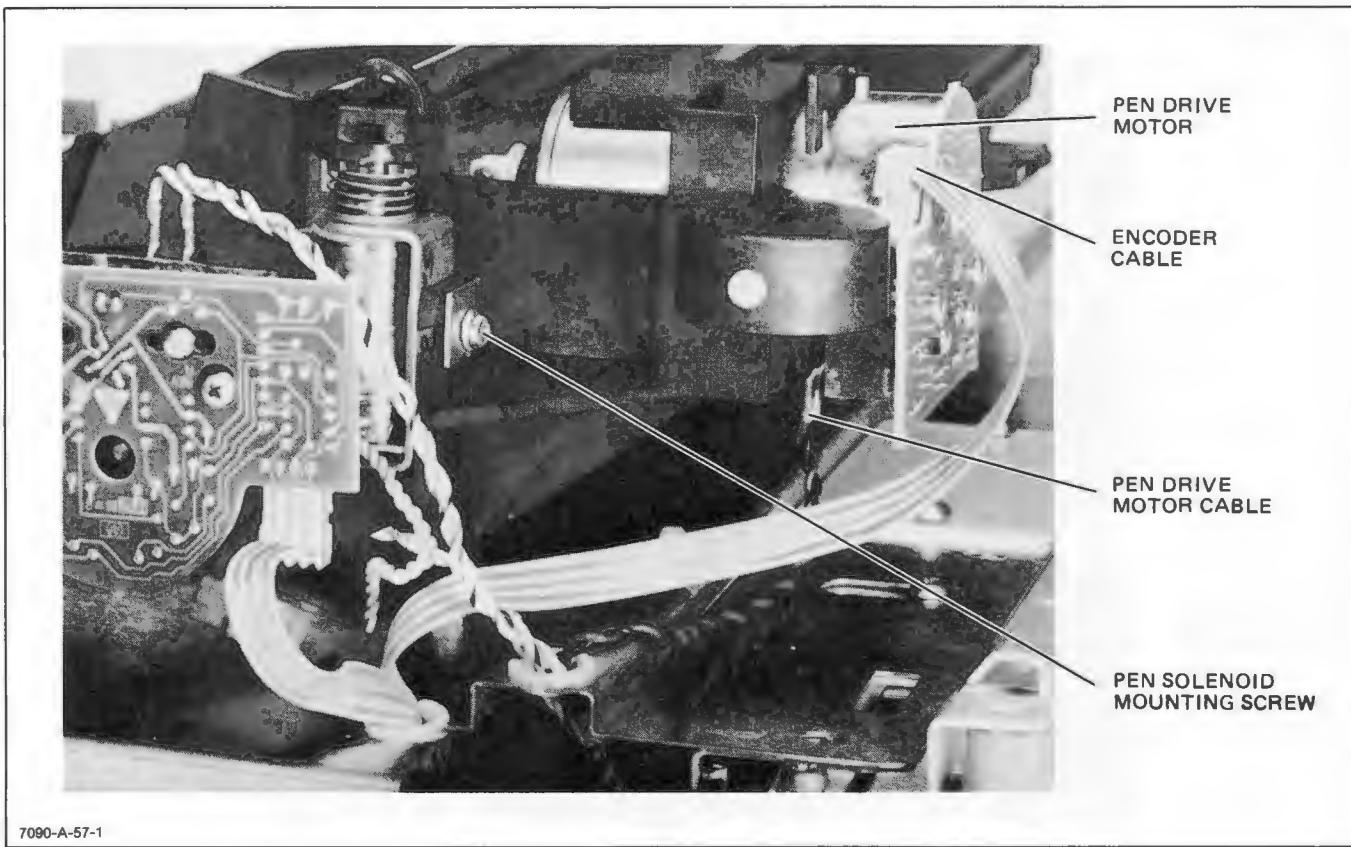

Figure 8-21. Pen Drive Motor
- Disconnect the pen drive motor cable (twisted pair) and the encoder cable connector. See Figure 8-21.
- Loosen the pen drive motor clamp and remove the motor. See Figure 8-21.
- Move the slider rod to the right just far enough to release the left end of the rod from its mounting. See Figure 8-21. Slide the rod to the left and out of the carriage/penholder assembly.